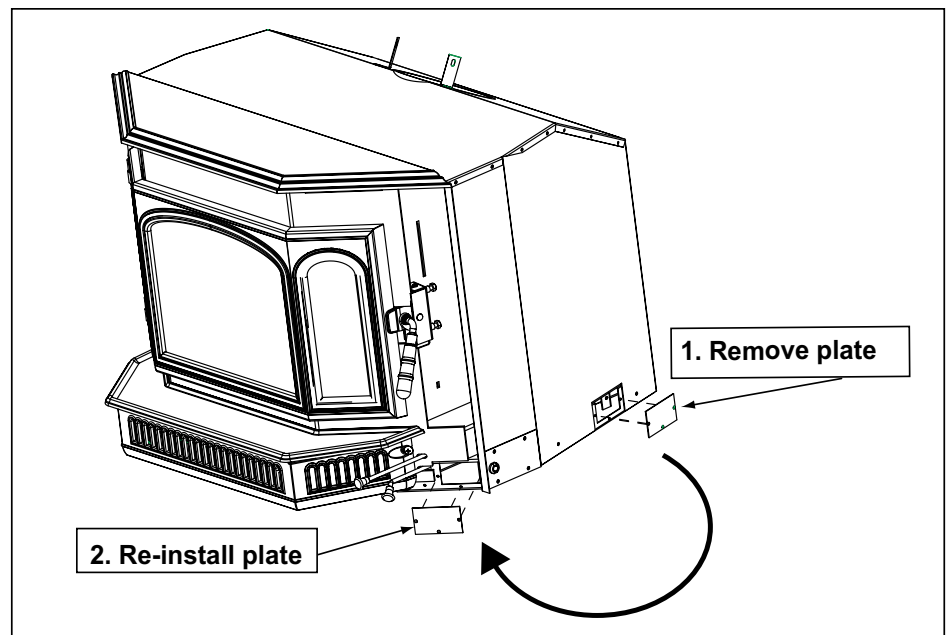

Figure 13B
2. Re-attach the cover plate using the same screws to front side of the insert as shown in **Figure 13B**.
9. Secure panels to insert with 8-32 sheet metal screws through tabs on bottom lower inside corners on side panels. **Figure 13B.**